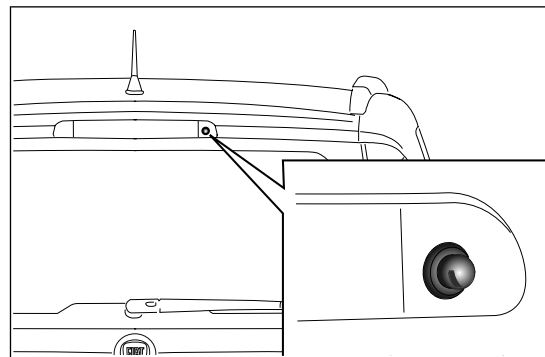

fig. 155
- ☐ raise cover A fig. 155, undo nut B and remove arm C;